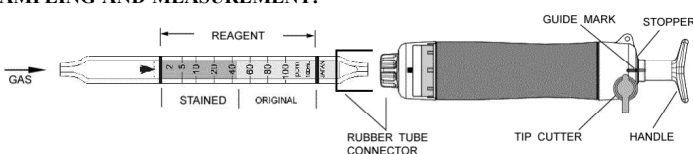

Fig.1
- ② Insert the detector tube into the aspirating pump securely as shown in Fig.1. (Arrow mark shall point to the pump.)
- ③ Align the guide marks on the shaft and stopper of the aspirating pump.
- ④ Pull the pump handle at a full stroke until it locks and wait for 1 minute or until the completion of sampling is confirmed with the flow indicator of the pump. (See descriptions about the flow indicator in the instruction manual of the pump.)
- ⑤ On completion of sampling, read the scale at the maximum point of the stained layer.
- ⑥ When the concentration is below the scale range, 4 pump strokes can be used to determine concentrations of 0.5 - 25 ppm. Repeat the procedures ③ to ⑤ 3 times more, then following equation is available for true concentration after correcting humidity using undermentioned table. (REFER TO ITEM 3. CORRECTION FOR AMBIENT CONDITIONS.)